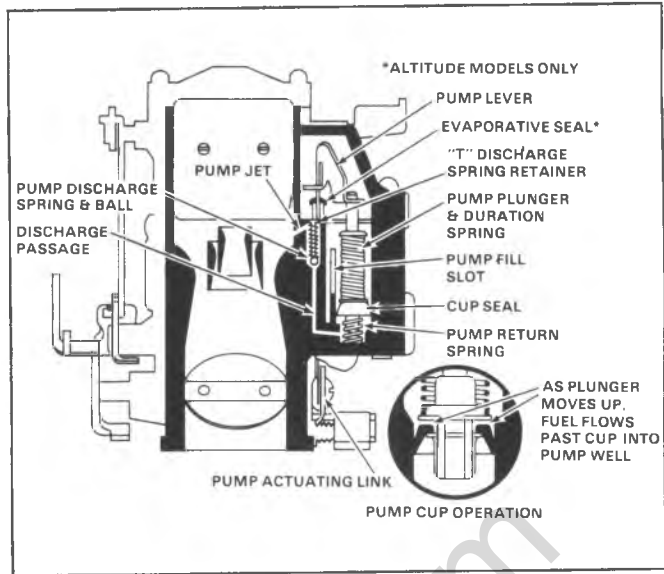

Fig. 6C1-23--Pump Drive Link
6. Install pump ball, spring and "T" into pump discharge hole (Fig. 6C1-20).